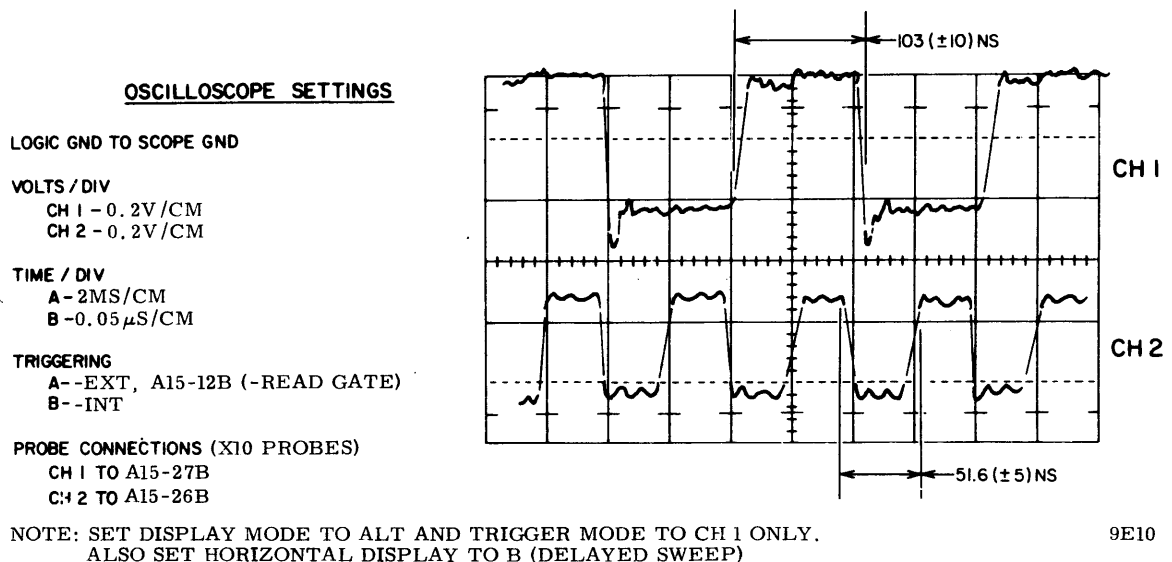

Figure 5-17. Read Data To Read Clock Timing
- a. Connect and set up oscilloscope as shown on figure 5-17.
- b. Observe that displayed signals have timing relationships as shown on figure 5-17.